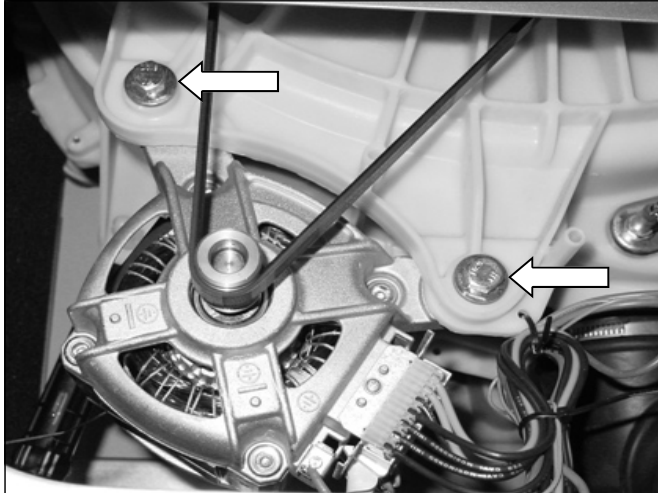

Fig. 9-1
- To remove the Main Motor, first remove the Drive Belt and then the wiring connection. Now remove the two 13mm motor mounting bolts, each bolt also has a washer and lock washer (Fig. 9-1).